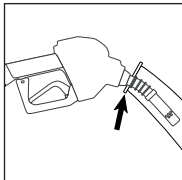

Figure 12
- Make sure the nozzle is properly inserted in the fill pipe. (See Figure 12)